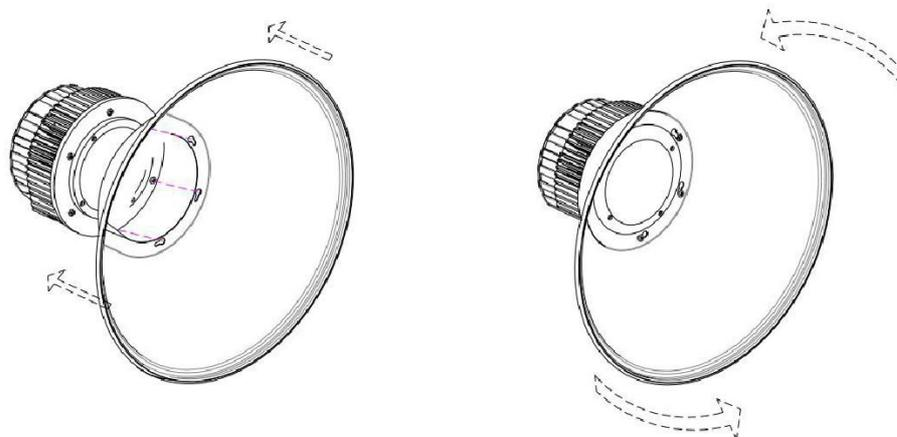

Fig. 1
- Open the package, and then assemble the lampshade and lampbody together (see fig.1).